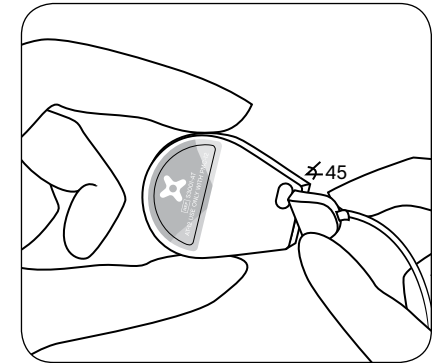

figure 8A: Insert power controller wire at 45° angle
- A. Insert the power controller wire into the matching cavity at the base of the applicator at a 45 degree angle (Figure 8A).